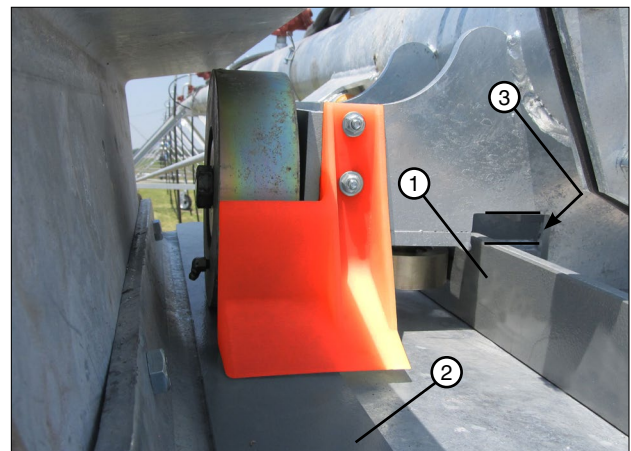

Figure 35-3 1. Track Roller Wear Plates
1. Check the condition of track rollers, guide rollers and wear plates regularly to prevent extended cradle damage. See Figure 35-3.
•Main rollers must be replaced when gap in Figure 35-3 becomes less than 1/16 inch.